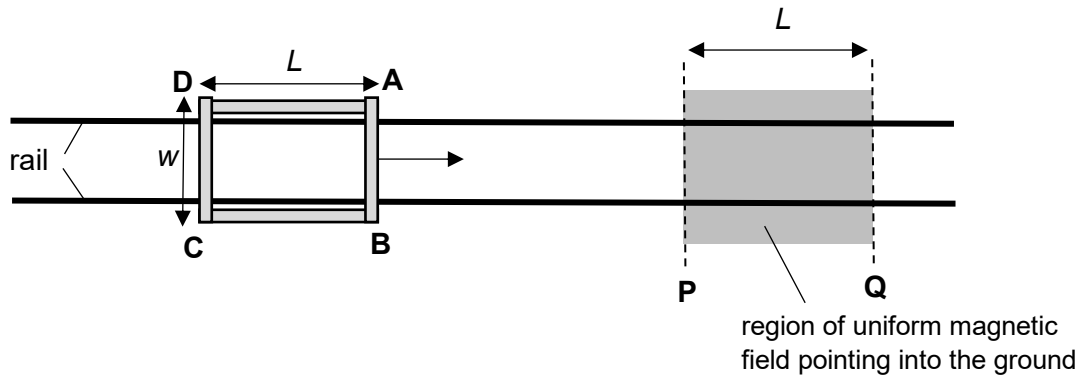

Fig 6.1
- 6 (a) The plan view (from top down) of a train braking system is illustrated in Fig 6.1. The train carriage of mass m is mounted on a rectangular metal frame ABCD of length L and width w , the effective resistance of the frame is R . The train carriage is initially moving at a constant speed along the rails.